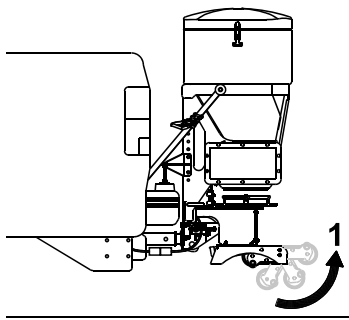

Figure 23
3. Pivot the leg-assembly wheels from under the spreader (Figure 23).